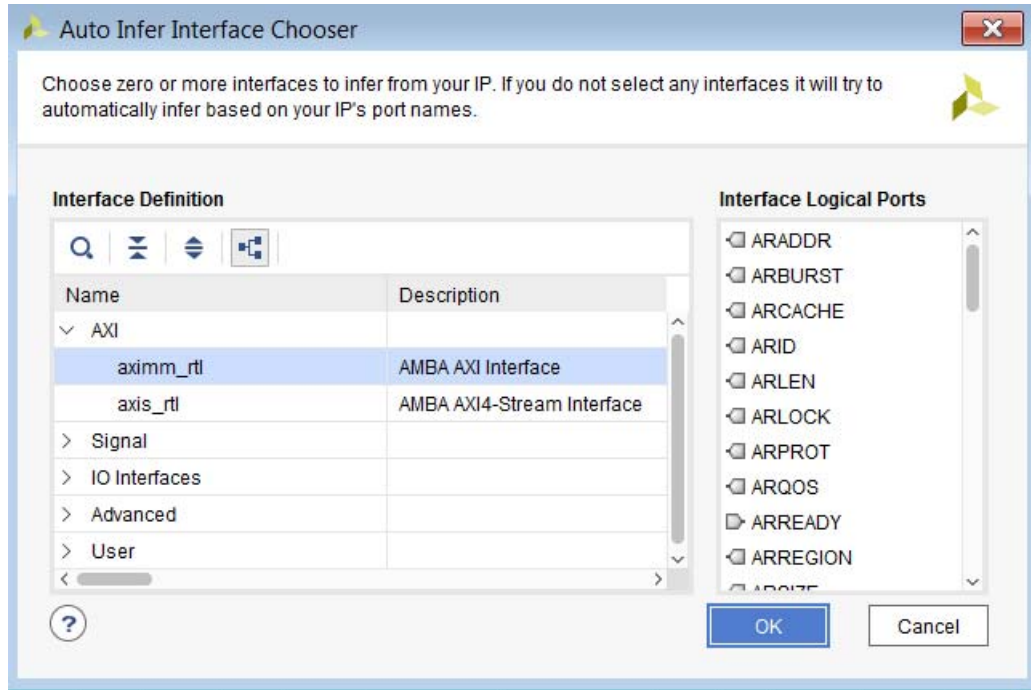

Figure 4-18: Auto Infer Interface Chooser
3. In the Auto Infer Interface Chooser dialog box, shown in Figure 4-18, select the interface to infer, then click **OK**.